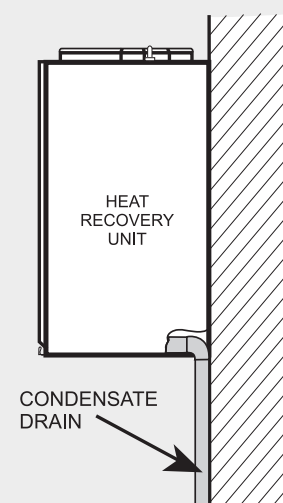

Figure 5
- 4.1.2 When the unit is installed in the loft or a heated area, it may only be positioned on its back (as shown in Figure 5).
- 5.1.2 Referring to Figure 5, determine the method to be used and make the condensate drain pipe connection to the unit.